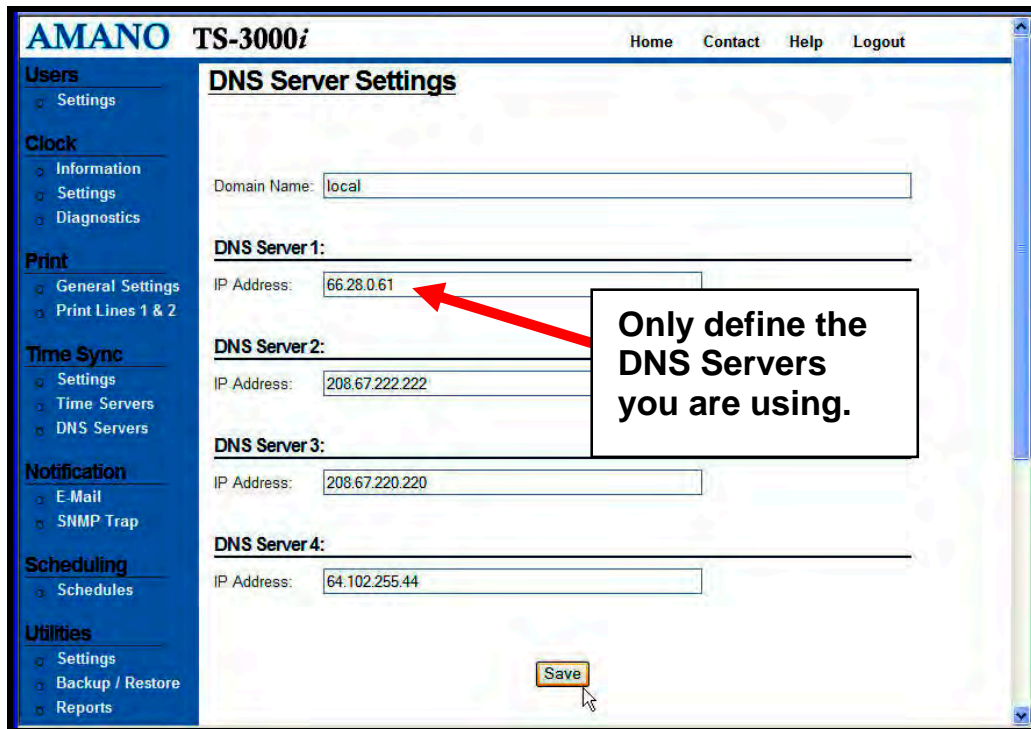

Figure 4-14: DNS Server Settings
- Step 1.** Click on the **DNS Servers** link under Time Sync, and the **DNS Servers Settings** screen will appear displaying the four (4) default public DNS servers (see *Figure 4-14*).